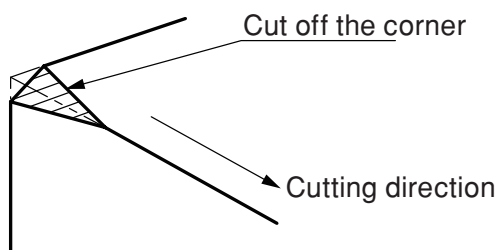

Fig.8
- (1) When you start to work from the corner as shown in Fig.8, cut off the corner first with grinder etc., then start.